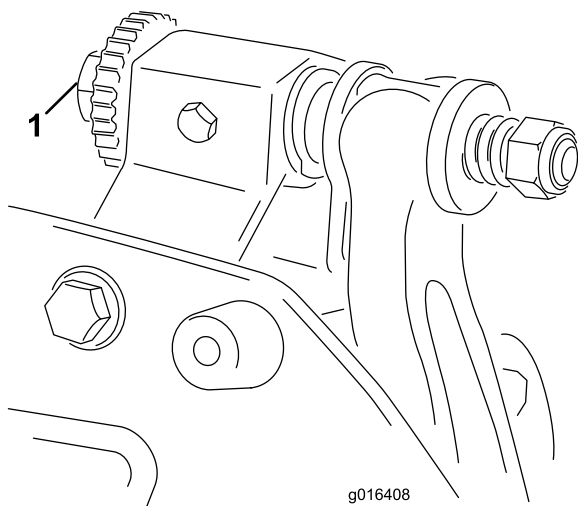

Figure 9
1. Position the machine on a flat, level work surface. Make sure reel contact is removed by turning the bedbar adjusting screws counterclockwise (Figure 9).